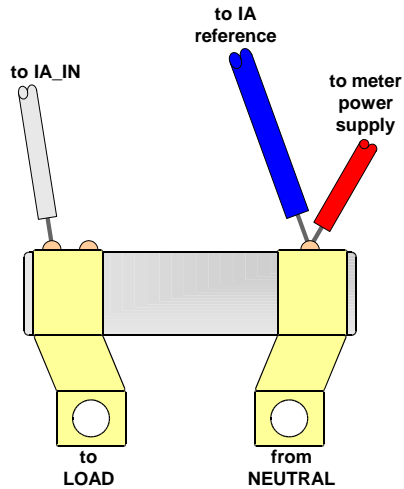
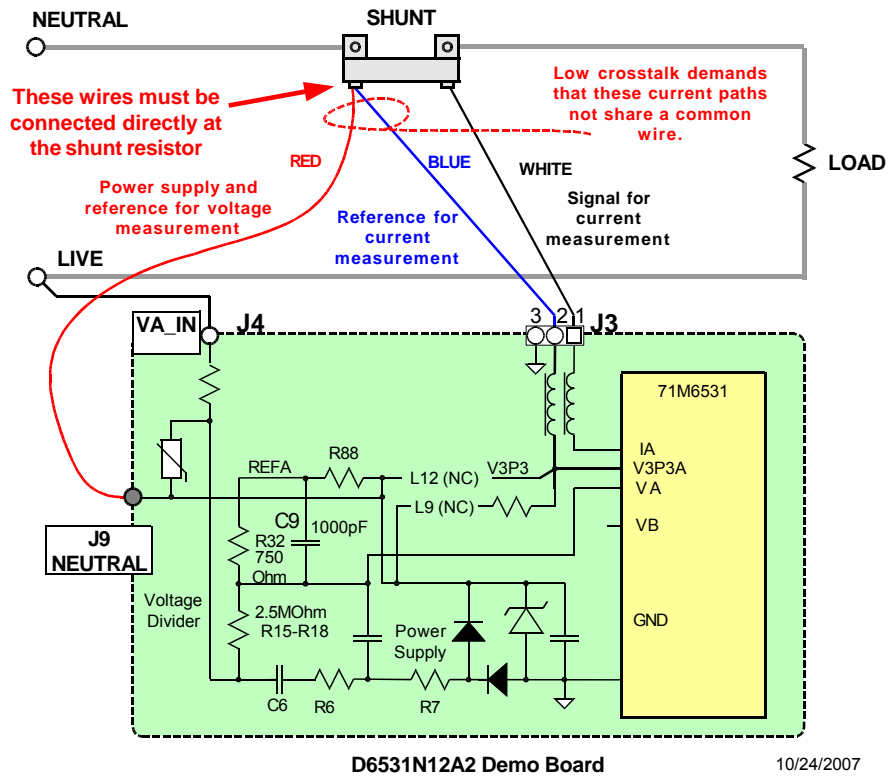

Figure 1-6: Pre-wired shunt resistor
Figure 1-7: Connection of the Pre-Wired Shunt Resistor
- 3) Connect the shunt resistor wiring harness as shown in Figure 1-7.
The 71M6531 Demo Kits are shipped with a pre-wired shunt resistor (400 $\mu\Omega$), as shown in Figure 1-6. This shunt resistor has to be connected to the 71M6531 Demo Board, as shown in Figure 1-7.